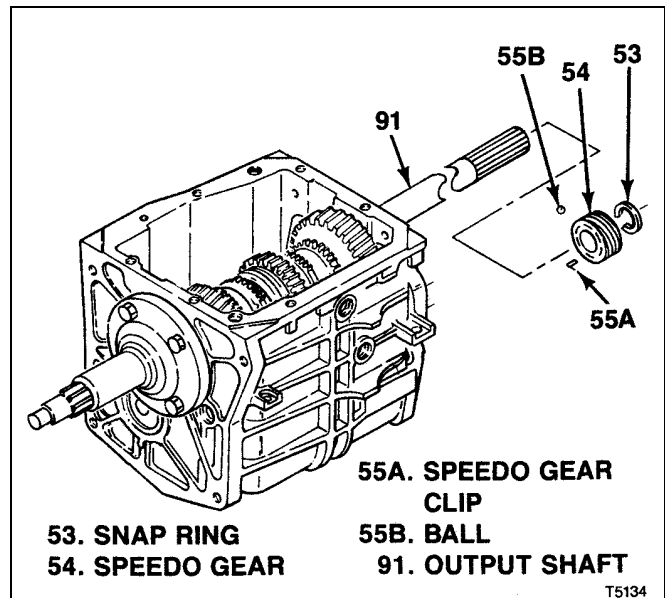

Figure 7-12. T5 STD Speedometer Gear.
- f. Install bearing cup (60) but do not install shim(s) (59) at this time.
- g. Do not use sealant on input bearing retainer at this time. Align index marks made at disassembly and install input bearing retainer (57). Attach with bolts (56) and torque to 15 lb-ft (20 Nm).
**7-14. INSTALLATION OF T5 STD SPEEDOMETER GEAR.** On models so equipped, install speedometer gear as follows (see figure 7-12):
1. Position clip (55A) on output shaft (91) with right angle end of clip in shaft hole. Start speedometer gear (54) onto output shaft, aligning gear slot with clip.
2. Using suitable tubular drift, tap speedometer gear (54) onto shaft (91) until spring end of clip (55A) snaps up to retain gear.